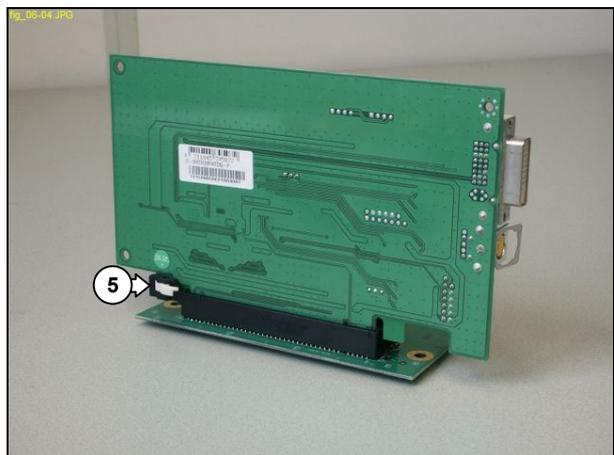

Figure 12.6-4
8. Push the locking tab arm (5) on the PCI-E connector to release the ADD2 Graphics card. See Figure 12.6-4.